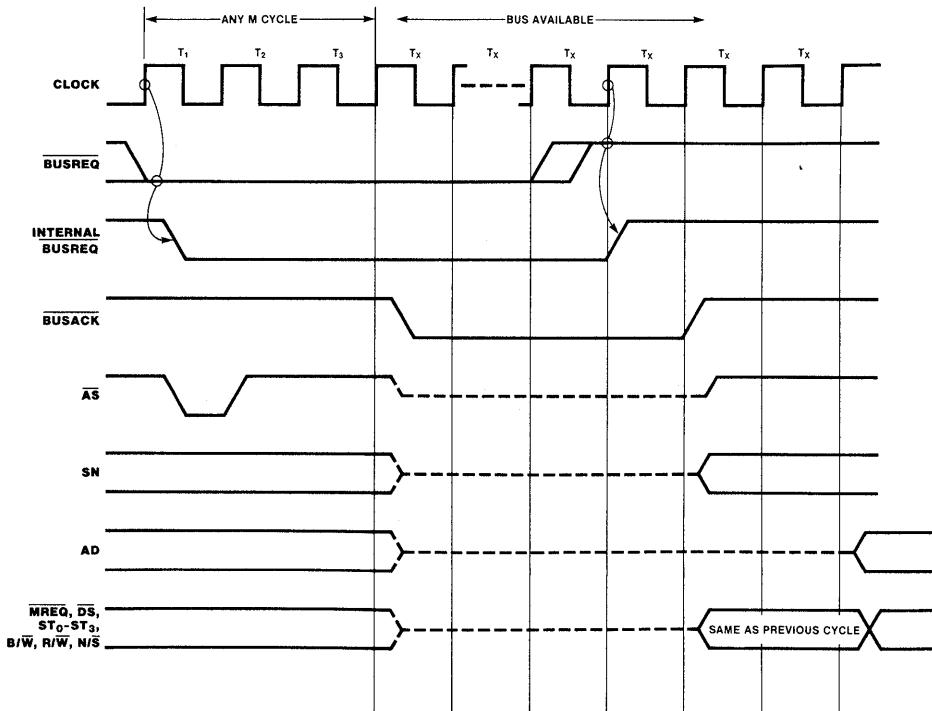

Figure 9-9. Bus Request/Acknowledge Timing
9.6.2 Bus Request. To generate transactions on the bus, a potential bus master (such as the DMA Controller) must gain control of the bus by making a bus request (shown in Figure 9.9). A bus request is initiated by pulling **BUSREQ** Low. Several bus requesters may be wired to the **BUSREQ** pin; priorities are resolved externally to the CPU, usually by a priority daisy chain (see the *Z-Bus Summary*).